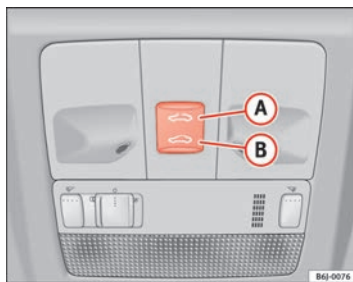

Fig. 49 Panoramic/tilting sunroof
- Press and hold button **(B)** ⇒ **fig. 49** ⇒ **⚠**, the roof starts to close until the button is released. ▶